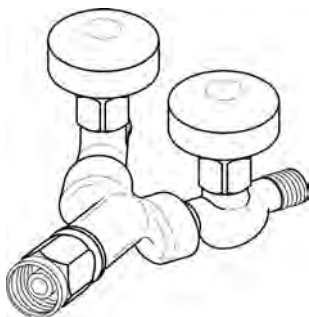

Figure 7.22 *Y" high pressure DISS 1290 adapter*
3. Use a calibrated 0-150 psi regulator, a wall or cylinder supply of medical oxygen, and a "Y" adapter (Figure 7.22). Attach the "Y" adapter to the regulator.